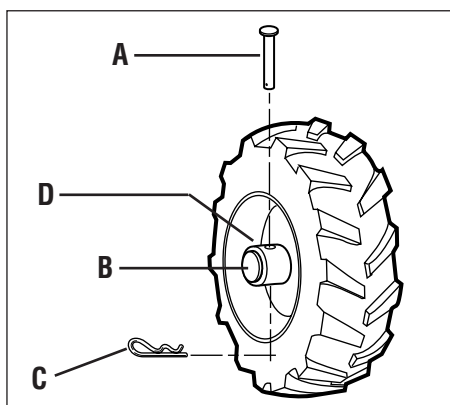

Figure 3-2: WHEEL DRIVE position.
Each wheel is equipped with a Wheel Drive Pin (A, Figures 3-2 and 3-3) that secures the wheel to the wheel shaft (B). The wheels can be positioned in either a WHEEL DRIVE or a FREEWHEEL mode.
Figures 3-2 and 3-3) by removing the hairpin cotter (C).
**4. FOR WHEEL DRIVE mode (Figure 3-2):** Slide the wheel outward and align the holes in the wheel hub (D, Figure 3-2) and the wheel shaft (B). Insert the wheel drive pin (A) through the wheel hub and the wheel shaft. Secure the wheel drive pin with the hairpin cotter (C) by pushing the hairpin cotter in as far as it will go. Repeat for the other wheel and then remove the support from beneath the transmission.